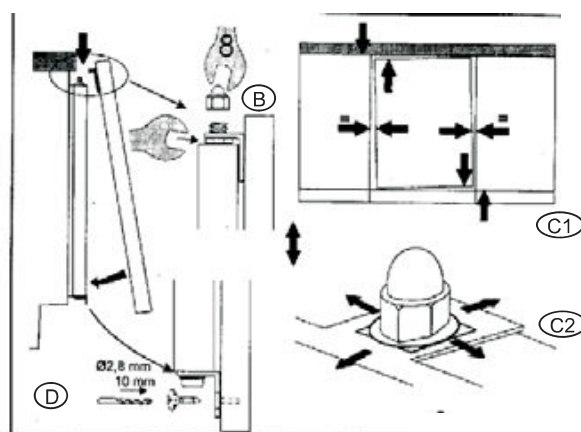

Figure 5
3) Fasten the furniture's door on to the appliance by tightening the upper nuts (Figure 5-A/B). Align the furniture's door to those on the neighbouring units by adjusting the position of the flanges to the furniture's door (Figure 5-D).